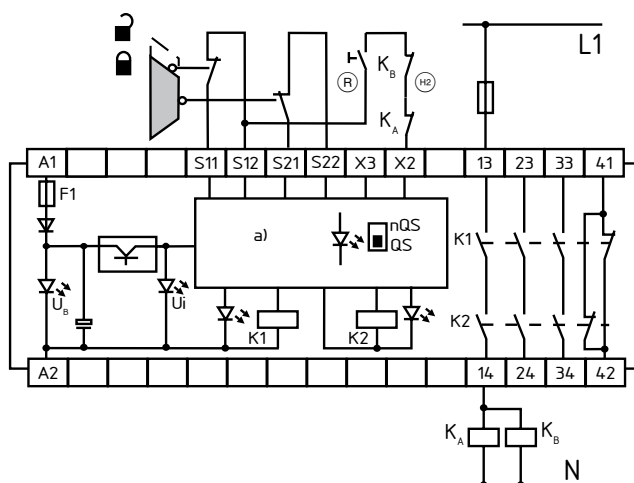

Fig. 4
Dual-channel control, shown for a guard door monitor with two position switches where one has a positive break contact; with external reset button (R) (see Fig. 4)
- (R) = Feedback circuit